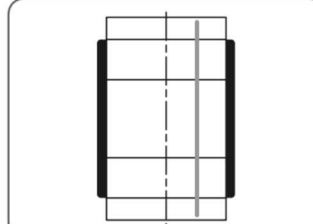

Fig 13 Pulleys with parallel misalignment
- 6.2. Elimination of horizontal angle misalignment: Move the machine until the laser line is positioned equidistantly from the three reference lines, the top line and the two bottom reference lines (as per figure 13).